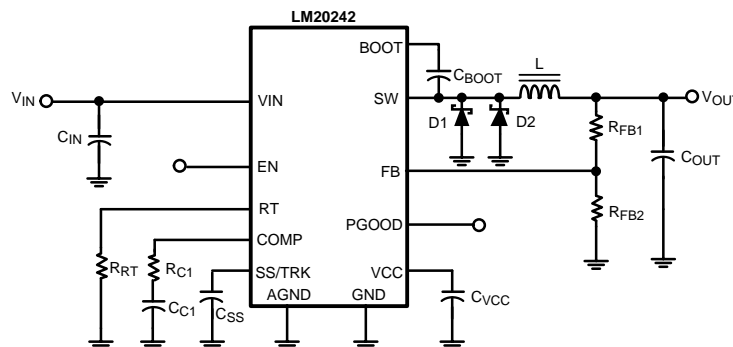

Figure 9. Typical Application Circuit
The LM20242 switching regulator features all of the functions necessary to implement an efficient low voltage buck regulator using a minimum number of external components. This easy to use regulator features two integrated switches and is capable of supplying up to 2A of continuous output current. The regulator utilizes peak current mode control with nonlinear slope compensation to optimize stability and transient response over the entire output voltage range. Peak current mode control also provides inherent line feed-forward, cycle-by-cycle current limiting and easy loop compensation. The switching frequency can be varied from 100 kHz to 1 MHz with an external resistor to ground. The device can operate at high switching frequency allowing use of a small inductor while still achieving efficiencies as high as 93%. The precision internal voltage reference allows the output to be set as low as 0.8V. Fault protection features include: current limiting, thermal shutdown, over voltage protection, and shutdown capability. The device is available in the HTSSOP package featuring an exposed pad to aid thermal dissipation. The typical application circuit for the LM20242 is shown in Figure 9 in the design guide.
This section walks the designer through the steps necessary to select the external components to build a fully functional power supply. As with any DC-DC converter numerous trade-offs are possible to optimize the design for efficiency, size, or performance. These will be taken into account and highlighted throughout this discussion. To facilitate component selection discussions the circuit shown in Figure 9 below may be used as a reference. Unless otherwise indicated all formulas assume units of amps (A) for current, farads (F) for capacitance, henries (H) for inductance and volts (V) for voltages.